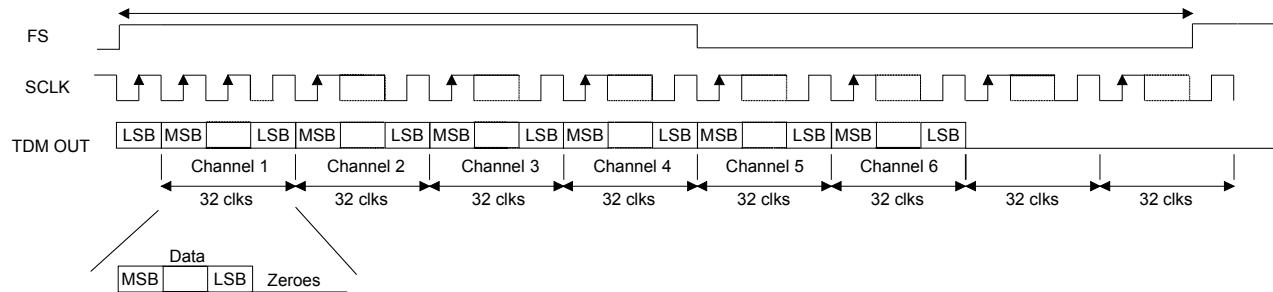

Figure 12. TDM Format
In TDM Mode, all six channels of audio data are serially clocked out during a single Frame Sync (FS) cycle, as shown in Figure 12. The rising edge of FS signifies the start of a new TDM frame cycle. Each channel slot occupies 32 SCLK cycles, with the data left justified and with MSB first. TDM output data should be latched on the rising edge of SCLK within time specified under "Serial Audio Interface - TDM Timing" section on page 16. The TDM data output port resides on the SDOUT1 pin. The TDM output pin is complementary TDM data. All SDOUT pins will remain active during TDM Mode. Refer to Section 4.11 "Optimizing Performance in TDM Mode" on page 29 for critical system design information.